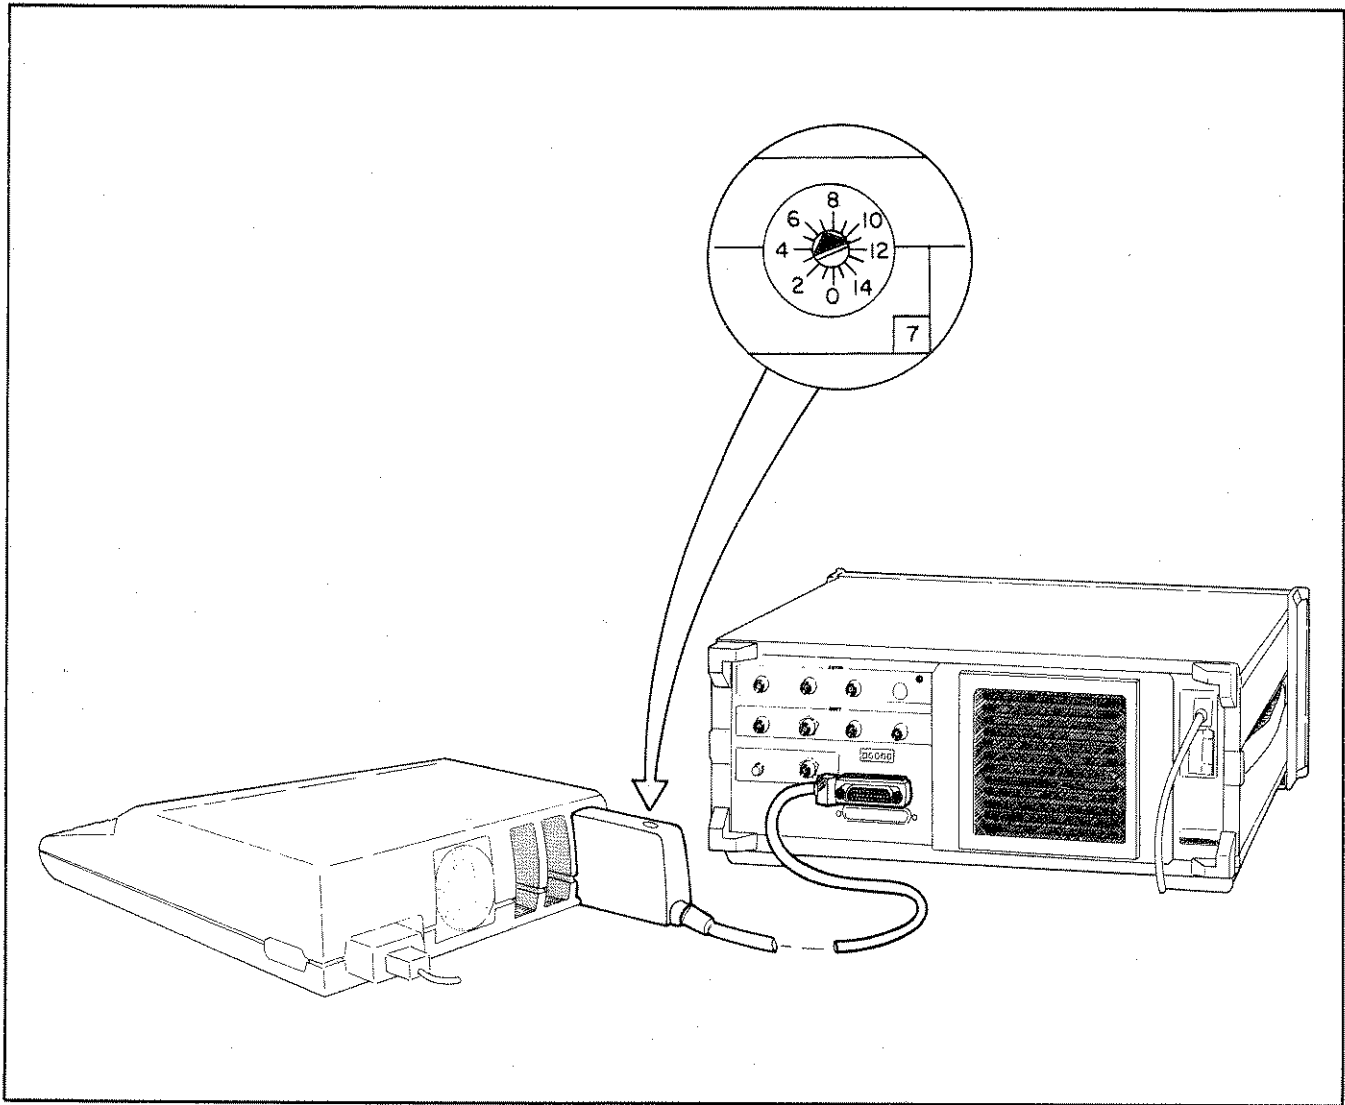

Figure 1. System connection.
Figure 1 shows the system connections and switch setting for the 98034A HP-IB Interface. To connect the system as shown, follow these steps:
4. Connect the 24-pin connector at the free end of the 98034A cable to the rear panel of the 8569A (see Figure 1). This connector is shaped to ensure proper orientation.